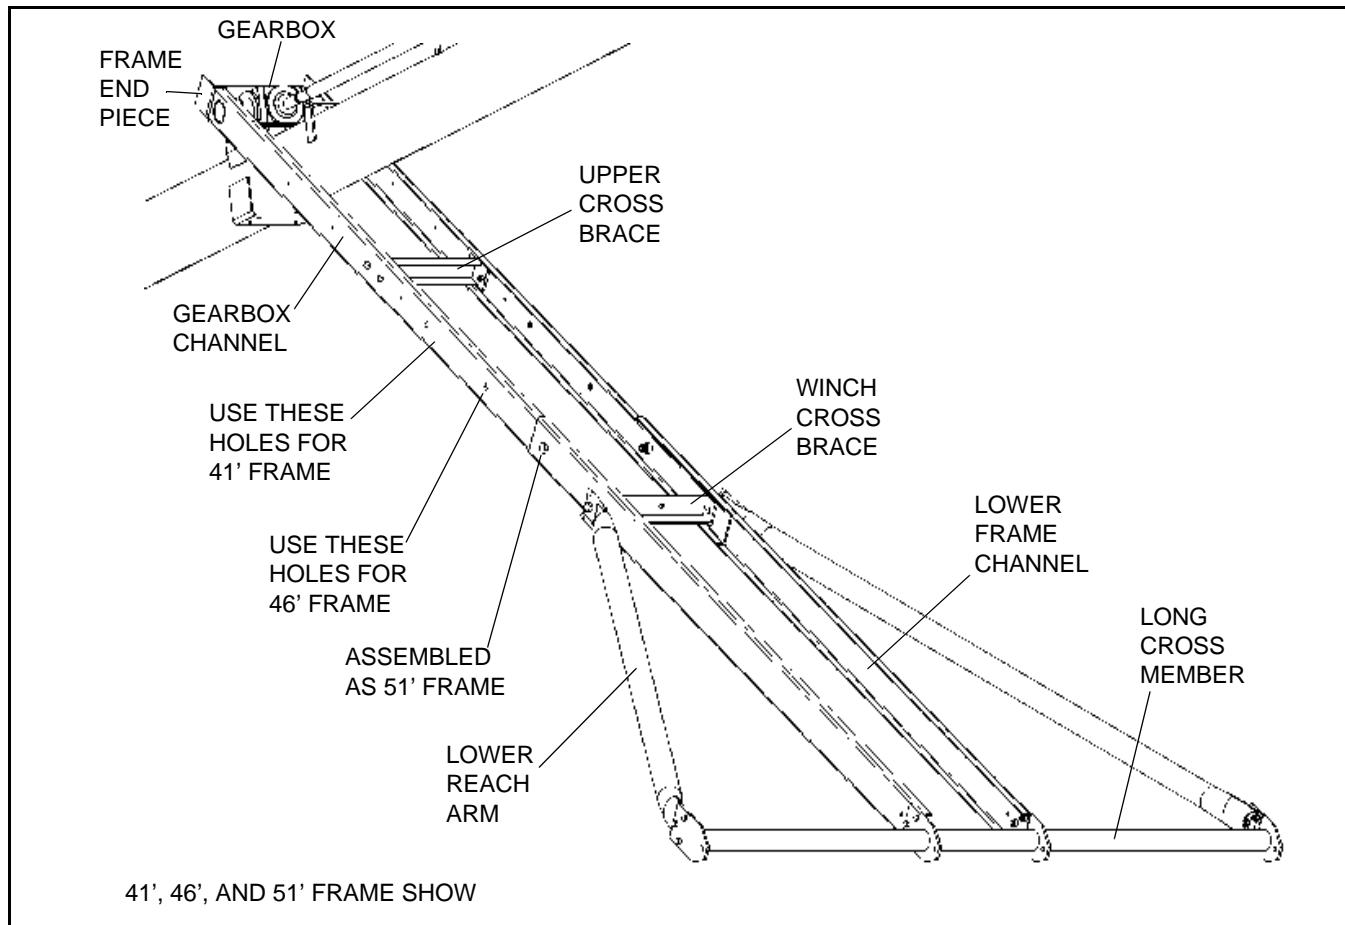

Figure 3.10 Lower Frame Assembly
2. Attach lower frame channel to gearbox channel using one 5/8 x 1-1/2" bolt and locknut in upper hole, and one 5/8 x 2" bolt and locknut in lower hole. Assemble frame channels according to size of auger (Figure 3.10, 3.11).
6. Install lower reach arms (one each side) and lower frame (winch) crossbrace (the one with holes) on frame (Figure 3.10). Tighten loose bolts from step 2. Let other end of reach arms rest on ground.